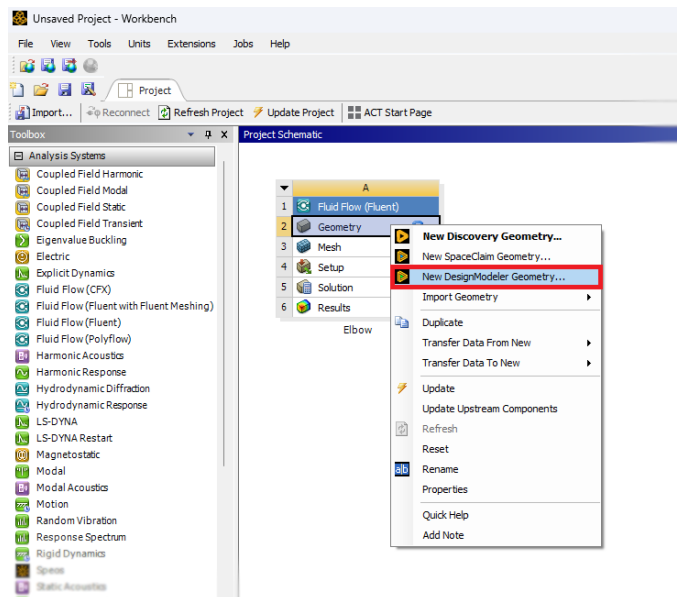

Figure 9: Starting ANSYS Design Modeler.
- Right-click on the *Geometry* cell and select *New DesignModeler Geometry* from the menu, as shown in figure 9. Please note that double-clicking directly on the *Geometry* cell, corresponds to select a *New SpaceClaim Geometry*, i.e. the default geometry system. DM will start and you will need to select the unit of measure of lengths, as